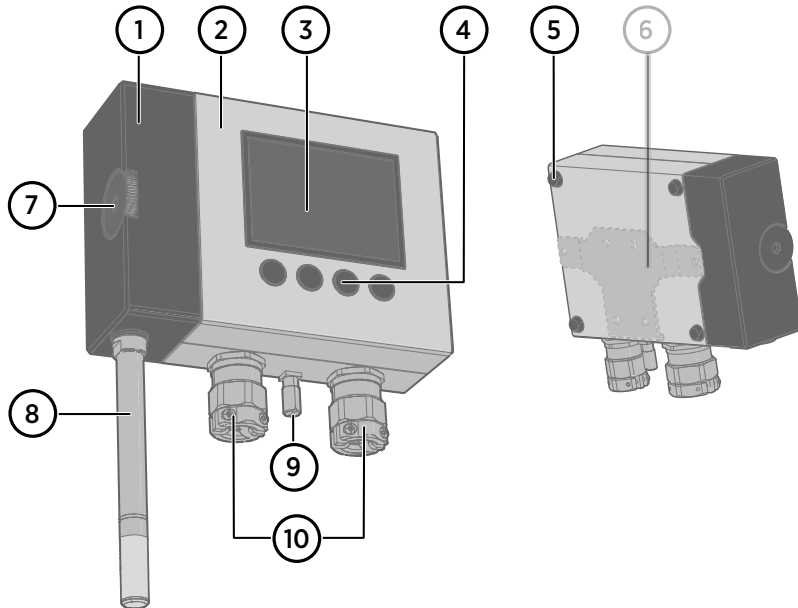
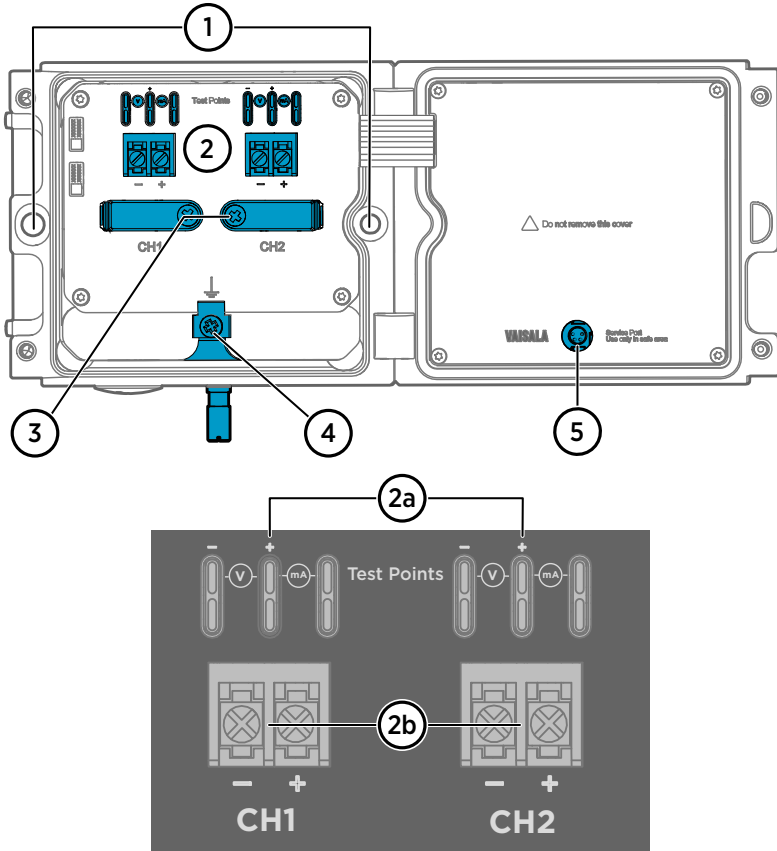

Figure 2 HMT370EX transmitter external parts
Figure 3 HMT370EX transmitter internal parts
The external parts of the transmitter are shown in Figure 2 \(page 13\), and the internal parts of the transmitter are shown in Figure 3 \(page 14\).
- 2 Transmitter body (for internal parts, see Figure 3 \(page 14\))